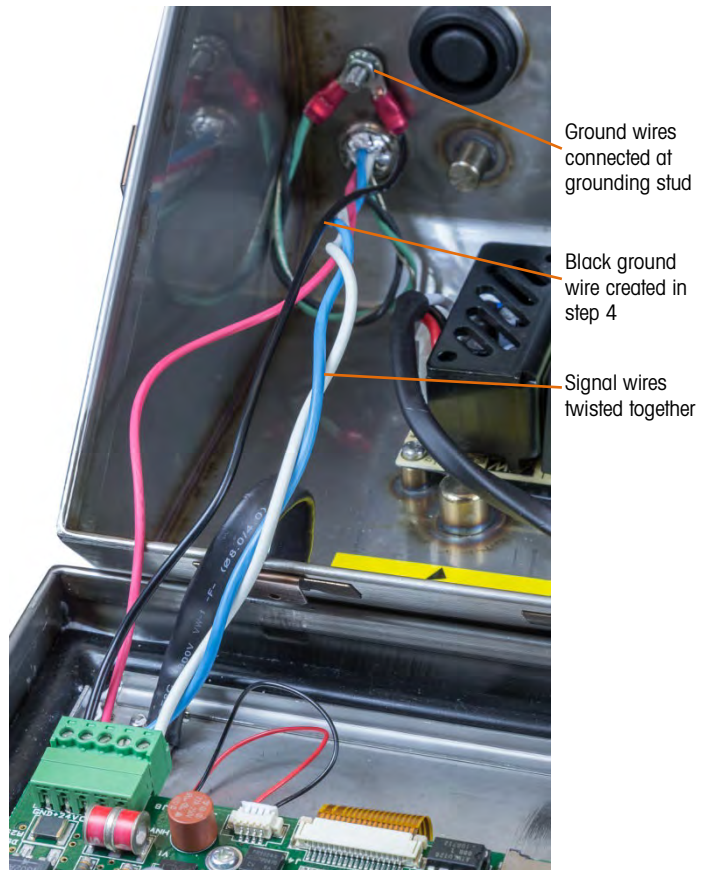

Figure 2-55: Internal POWERCELL Cable Connections Completed
- 5. Attach both ring terminals either to the grounding stud (see Figure 2-55).
10. Figure 2-55 shows the completed cabling procedure inside the IND246 POWERCELL enclosure.